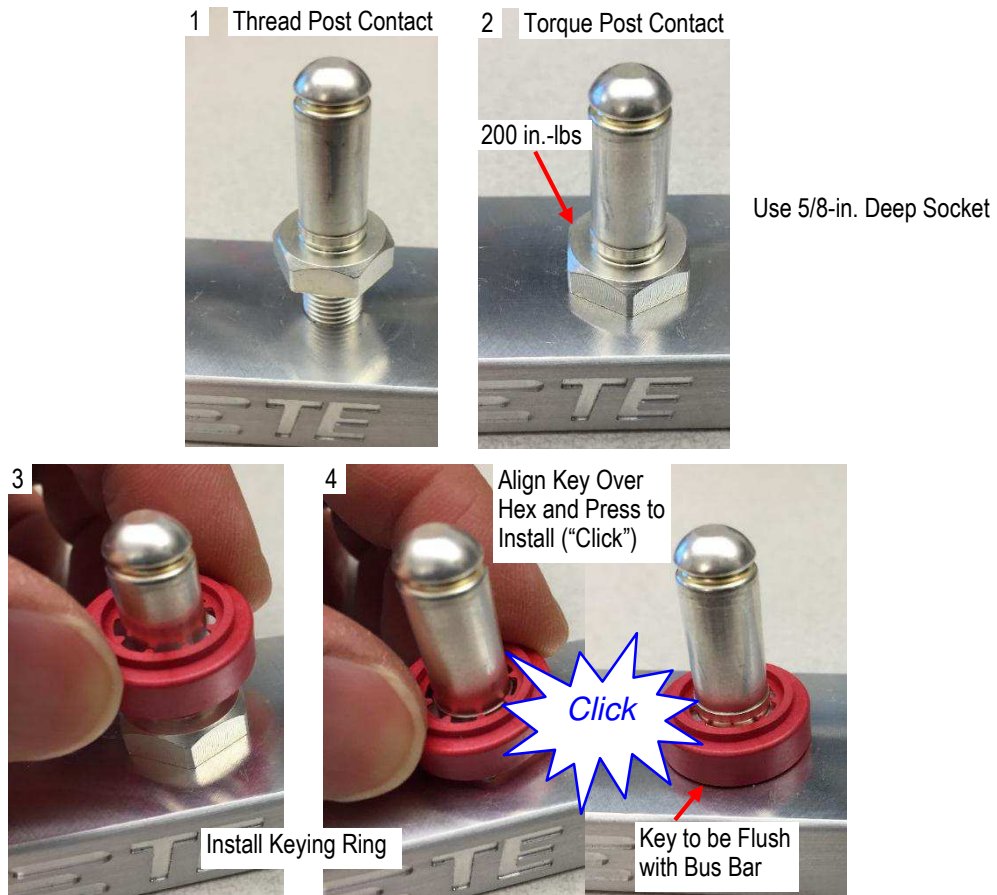

Figure 12
3.7. Post Contact Kit: Installation and Assembly Procedure (Figure 12)